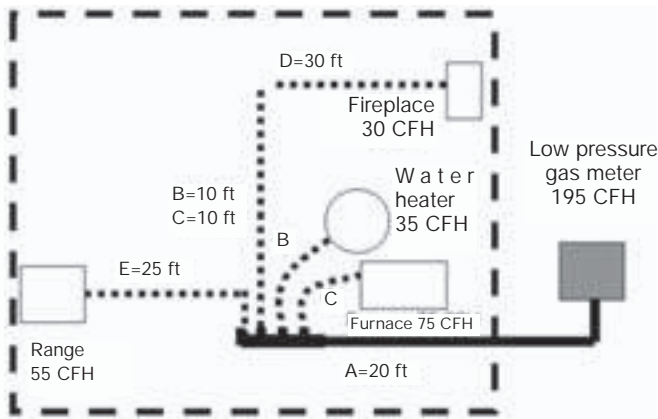

Figure 3-7
1. The system presented in figure 3-7 is typical of a residential installation with four appliances. The supply pressure is 7-8 inches water column. The system will be sized with 0.5 inches w. c. drop for the steel pipe trunk line and 1 inch w.c. drop for the *TracPipe* branches. (Note: confirm that pressure drops larger than 0.5 inches water column are permitted in your jurisdiction)